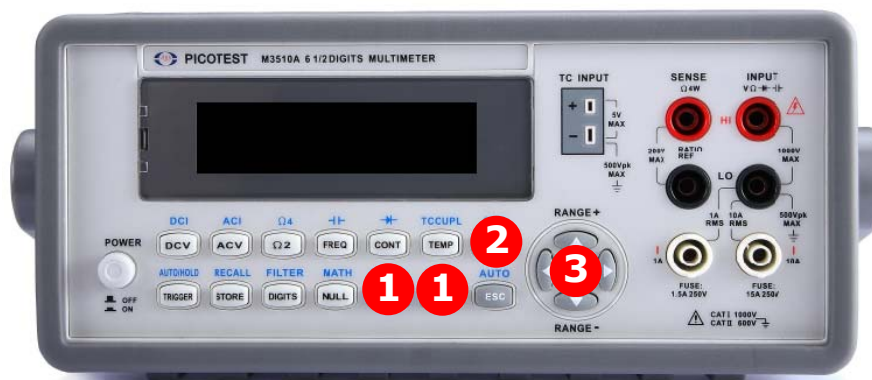

Figure 4-19
1. Press SHIFT+CONFIG buttons as shown in **Figure 4-19**.